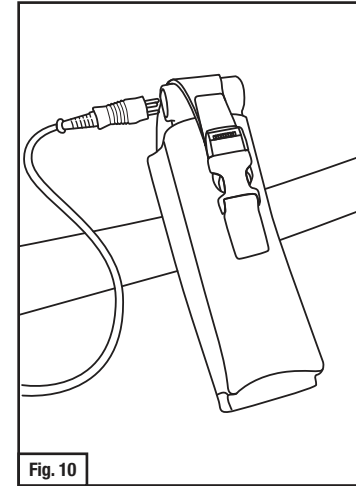

Fig. 10
- Connect the GVP-610 power cord to the TR-659 adapter (Fig. 10). Plug socket end of the power cord into the prong receptacle on the front of the GVP-100 motor/blower. To power the motor/blower on, hold the power button on the adapter down for 1/2 second. When powered on, the indicator light on the TR-659 should blink for approximately one second and then turn off.